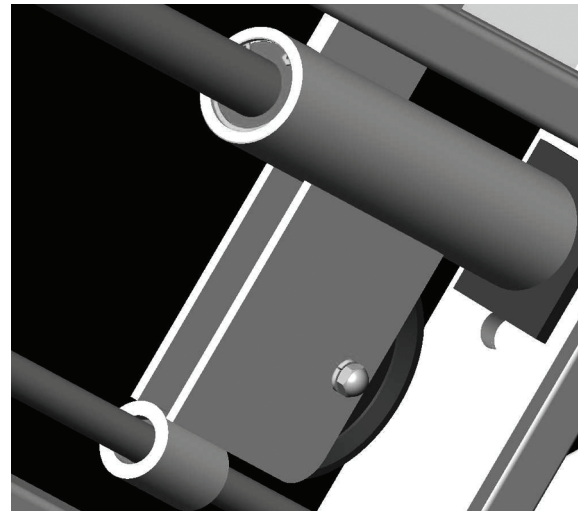

Figure 10: Shows a typical location of a linear bearing in its housing
- **Linear Bearings:** Case hardened shafts are used in areas that use linear bearings (refer to Figure 10). The extreme hardness of the shaft is required to prevent the bearing from wearing a groove in the shaft. Inspect each end of the hardened shaft to ensure they are fastened correctly and all bolts are tight.